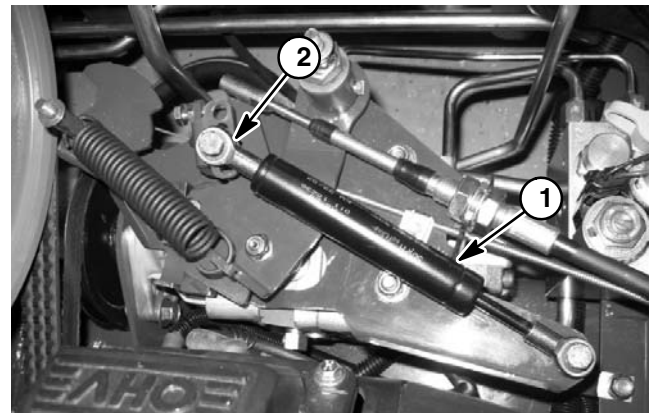

Figure 30
- B. Damper should be secured to third hole from outer end of traction lever (Fig. 30).
2. Place two (2) flat washers to tops of studs on pump control assembly. Position pump shield to pump and secure with two (2) lock nuts.